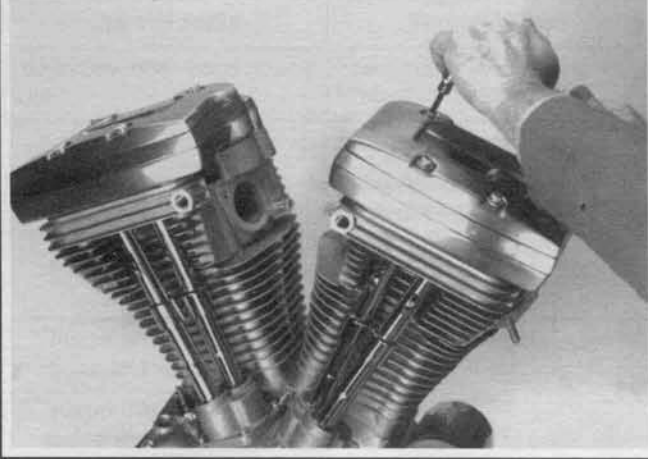

Figure 3-4. Remove Rocker Cover Screws
1. See Figures 3-4 and 3-6. Remove screws (1) and seals (2).